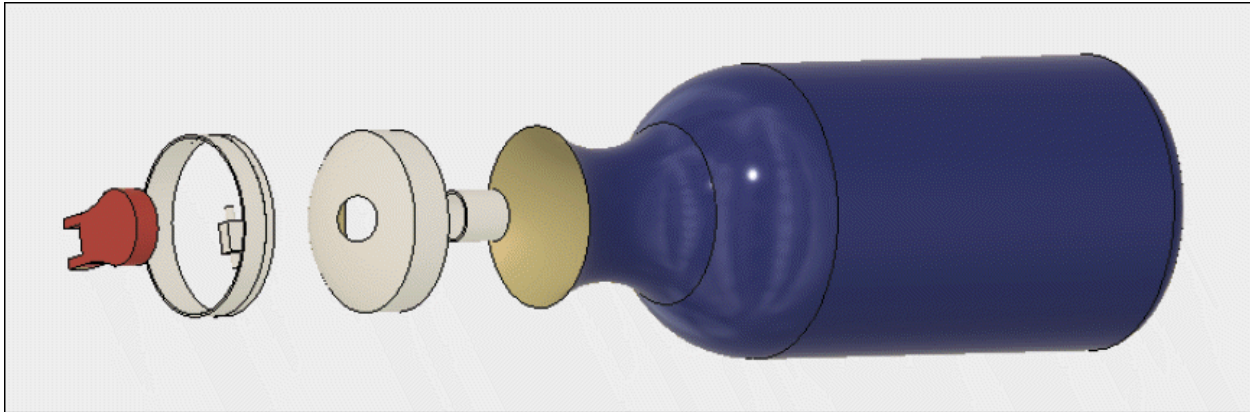

Figure-45. Exploded view of water bottle assembly
- After adjusting the components, click on the **OK** button. The exploded view of assembly will be displayed; refer to Figure-45.